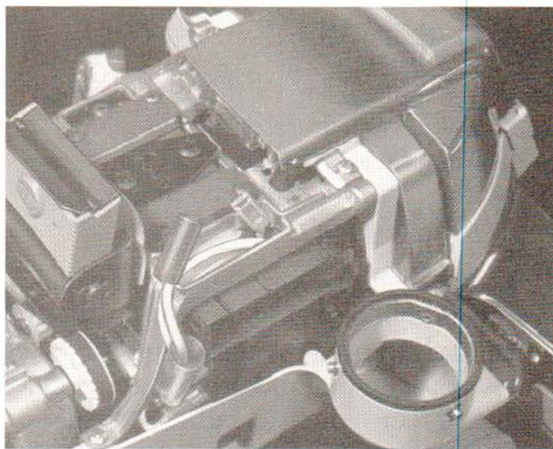

Figure 6. Separation of In-line Connector of Headlight Leads
- B. See Figure 6. Cut and remove tie wrap from headlight leads. Slide clear insulated tubing from in-line connector and separate connection. When reinstalling